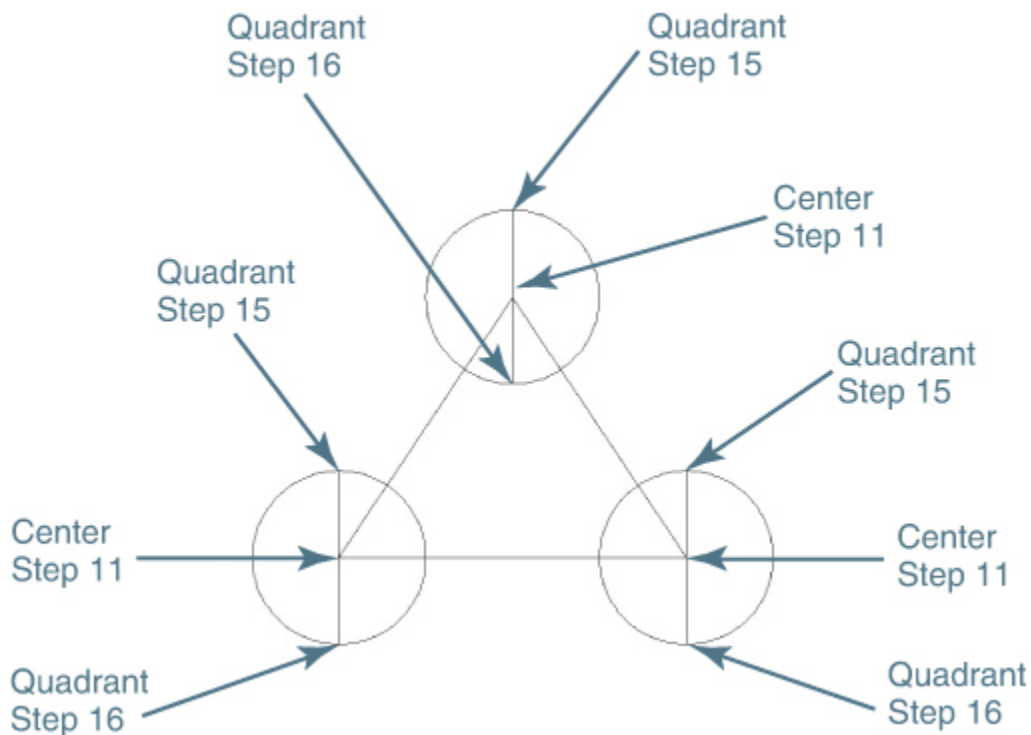

Figure 5-29
- 6 Repeat steps 4 and 5 to create two more 1"-radius circles at the coordinate locations of **(4,5)** and **(6,2)** (see Figure 5-29).
- 11** Place your cursor over the center of the circle on the bottom left of the drawing, and wait until the **Center** AutoSnap marker and tooltip are displayed. Pick a point while the AutoSnap marker is displayed (see Figure 5-29).
- 12** Repeat step 11 for the other two circles and draw three lines to create a triangle (see Figure 5-29).
- 15** Place your cursor over the top quadrant point (90°) of the circle on the bottom left of the drawing, and wait until the **Quadrant** AutoSnap marker and tooltip are displayed. Pick a point while the AutoSnap marker is displayed (see Figure 5-29).
and wait until the **Quadrant** AutoSnap marker and tooltip are displayed. Pick a point while the AutoSnap marker is displayed (see Figure 5-29).
18 Save your drawing as **CH05_EXERCISE5**. Your drawing should look like Figure 5-29.